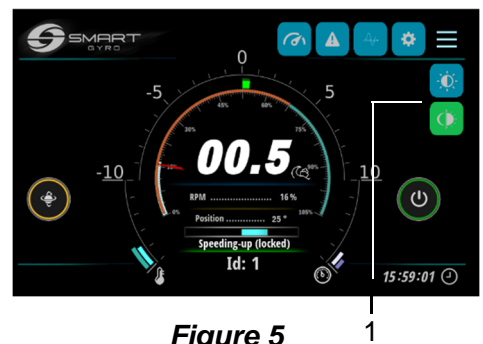

Figure 5
- Press the night/day selection icon **(Figure 5, (1))** to select the desired operating speed.